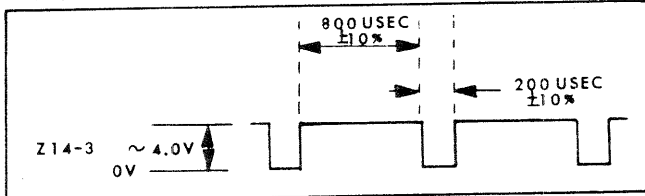

Figure 5-4. Scan Oscillator waveform
a. The scan oscillator Z14 operation is checked at its output, Z14-3, by observing the waveform on the oscilloscope. See Figure 5-4 for proper amplitude and frequency of the waveform.